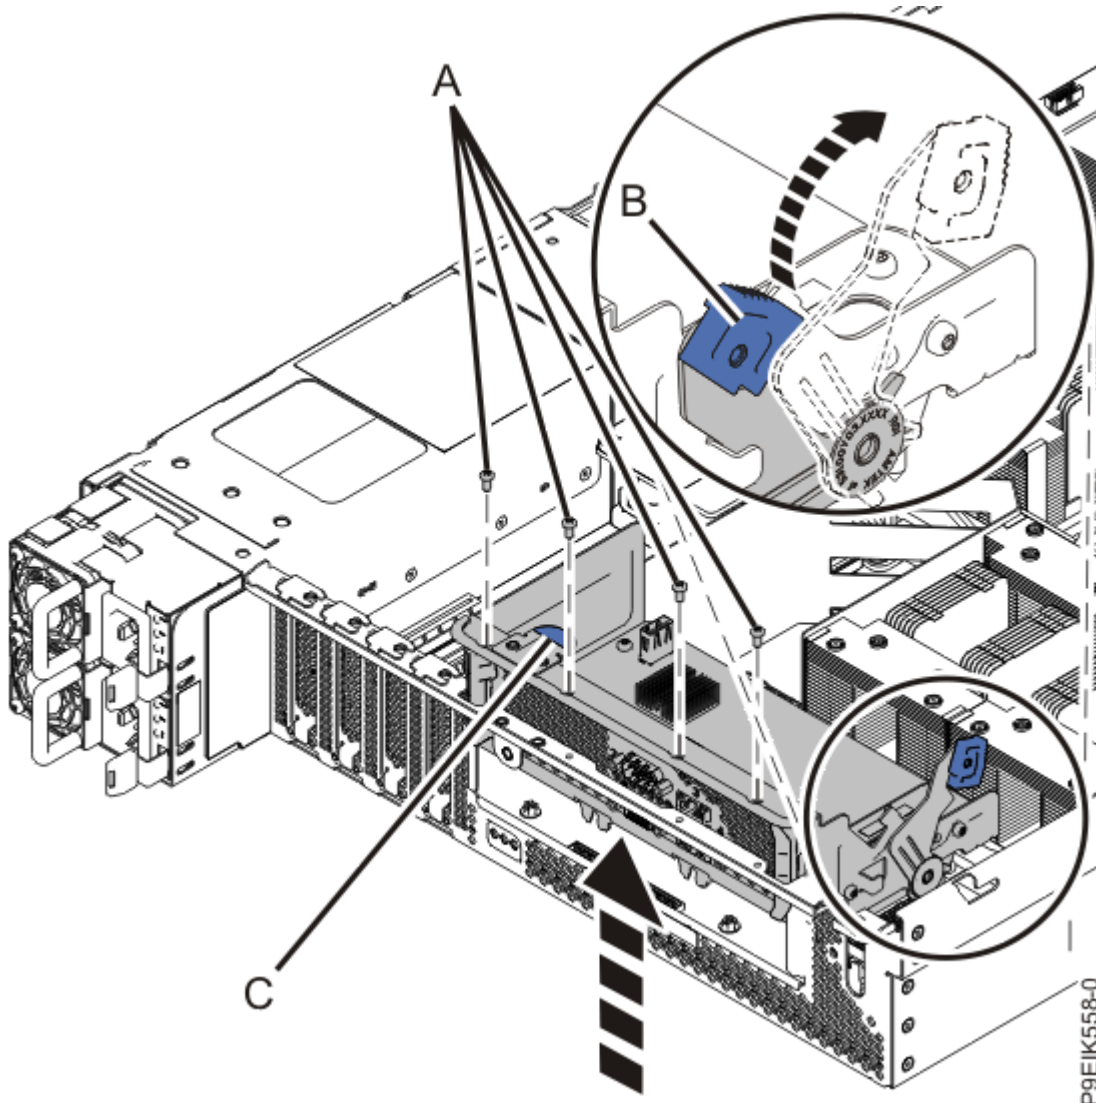

Figure 1. Removing the BMC card
3. To remove the BMC card, follow these steps as shown in Figure 1 on page 3.